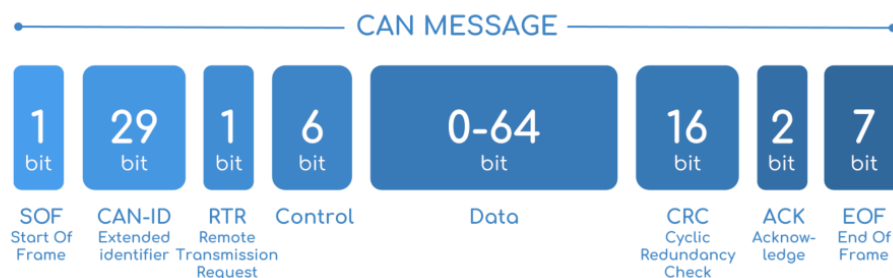

Figure 2. The bits that make up a CAN frame, from CSS Electronics.
The nodes on the bus transmit data in frames, and there are two different formats which are base frame and extended frame. The only difference between base and extended frame format is that extended frame format contains 29 identifier bits instead of 11. The identifier bits let other nodes on the bus know who sent the message and the priority of the message. A base format data frame begins with a start of frame bit, which is driven dominant (0) to indicate the start of a frame. The 11 identifier bits are transmitted next to identify the sender and priority. Next, the Remote Transmission Request bit is sent next. This bit is used to indicate if the node is sending data or requesting data. The next bit, called the Identifier Extension Bit (IDE,) is dominant if 11-bit identifiers are used. A reserved bit comes after the IDE bit, which means it can be either dominant or recessive. Next is 4 bits of data that contain the number of data bytes being transmitted in the CAN frame, from 0 to 8 bytes, called the Data Length Code (DLC.) These 6 bits make up the control section seen in Figure 2 below. After the control bits comes the actual data bits, which can be up to 64 bits (8 bytes) in length. An example of when the data section would likely be 0 bits is if a node is requesting data instead of sending it. 16 bits is used for error correction, which comes after the data bits, known as a Cyclic Redundancy Check (CRC.) The next two bits are known as the acknowledgement (ACK) bits. A transmitter will send a recessive (1) bit, and a receiver will assert the bit (0.) The second bit of ACK will always be recessive. Finally, 7 recessive bits marks the end of the CAN frame.